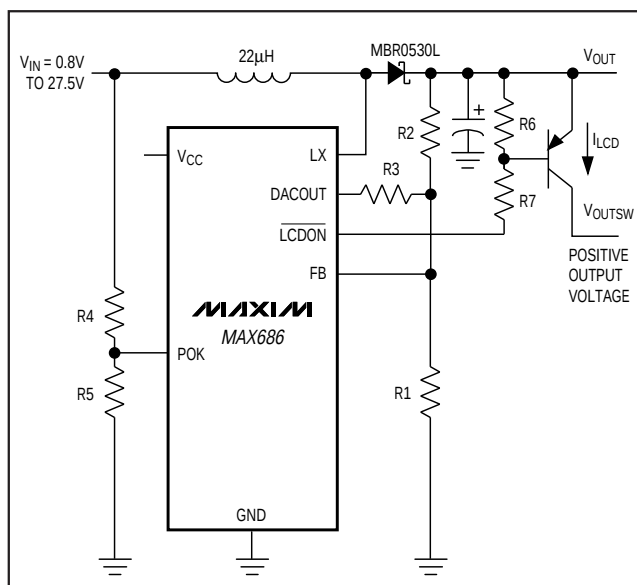

Figure 6. Using the POK for Input Voltage Monitoring
POK is the input to the power-OK comparator. The comparator drives an internal N-channel MOSFET. The MOSFET's open-drain output, $\overline{\text{LCDON}}$, can drive an external PNP transistor or P-channel MOSFET, switching a positive V_{OUT} to the LCD (Figures 6 and 7). When the voltage at POK exceeds 1.125V (power OK), $\overline{\text{LCDON}}$ goes low, turning on the external PNP transistor. When the voltage at POK drops below 1.125V (power not OK), the external PNP transistor turns off, cutting off power to the LCD display. This feature ensures that the LCD display is not damaged due to improper voltage levels. During shutdown or undervoltage lockout, $\overline{\text{LCDON}}$ is high impedance.
When the voltage at POK is greater than 1.125V (typical), the open-drain $\overline{LCDON}$ output pulls low. $\overline{LCDON}$ can withstand up to 27.5V to control an external PNP transistor to switch on the MAX686's positive output (Figures 6 and 7). A PFET can also be used, but a resistor-divider must be used in conjunction with it, so that the PFET does not exceed its V_{GS} rating. Three useful applications of this feature are as follows:
- *An input-sensing cutoff for positive outputs.* Connect POK to a voltage divider to sense the input voltage. The output switches on only when the input reaches the set level (Figure 6).
For input voltage sensing, a resistor-divider (R4-R5, Figure 6) from V_{IN} to POK controls the open-drain output $\overline{LCDON}$, which pulls low when $V_{POK} > 1.125V$. Choose $R5 = 100k\Omega$. For example, if the minimum battery voltage is 5.3V, then determine R4 as follows: